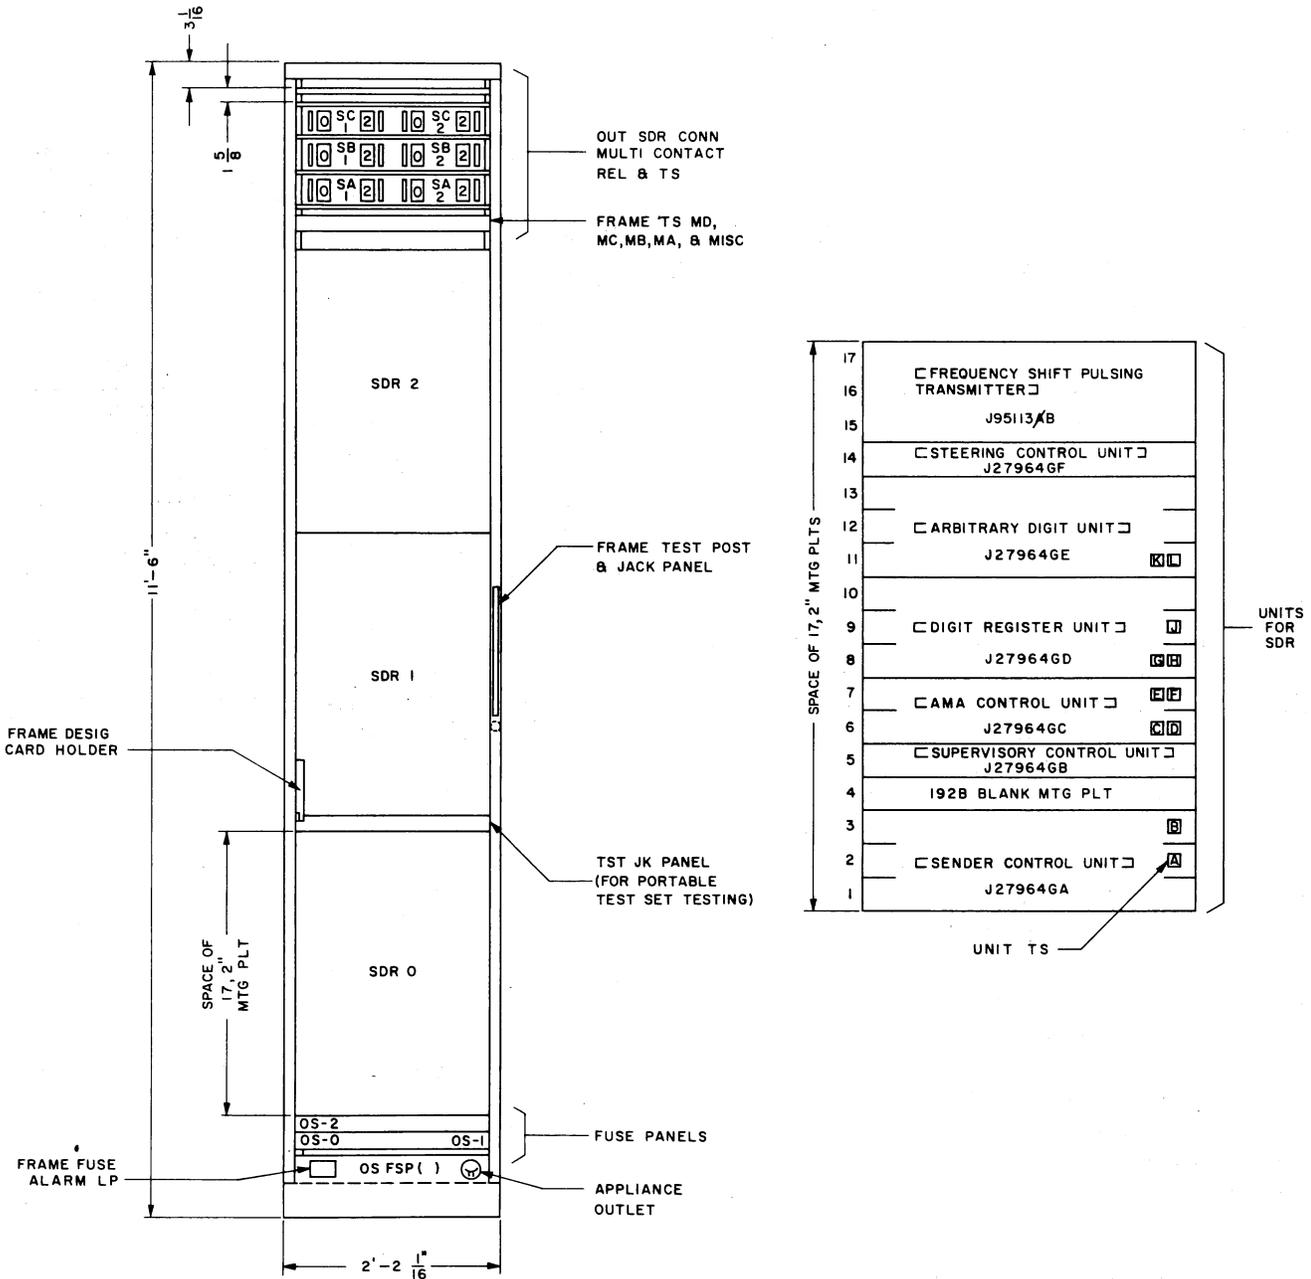

Fig. 2 — Outgoing Sender Frame
1.05 Each sender is associated with an FSP transmitter and a fully equipped 11-foot 6-inch outgoing sender frame mounts three senders. (See Fig. 2.)